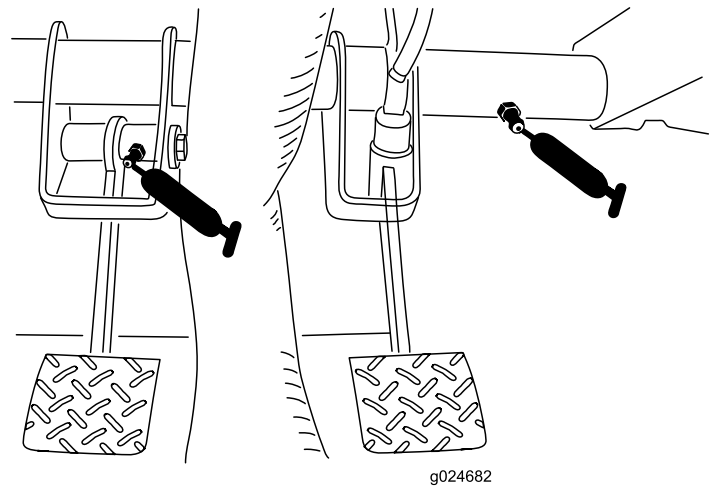

Figure 31
- **Clutch (1);** refer to Figure 31
- **Brake (1);** refer to Figure 31